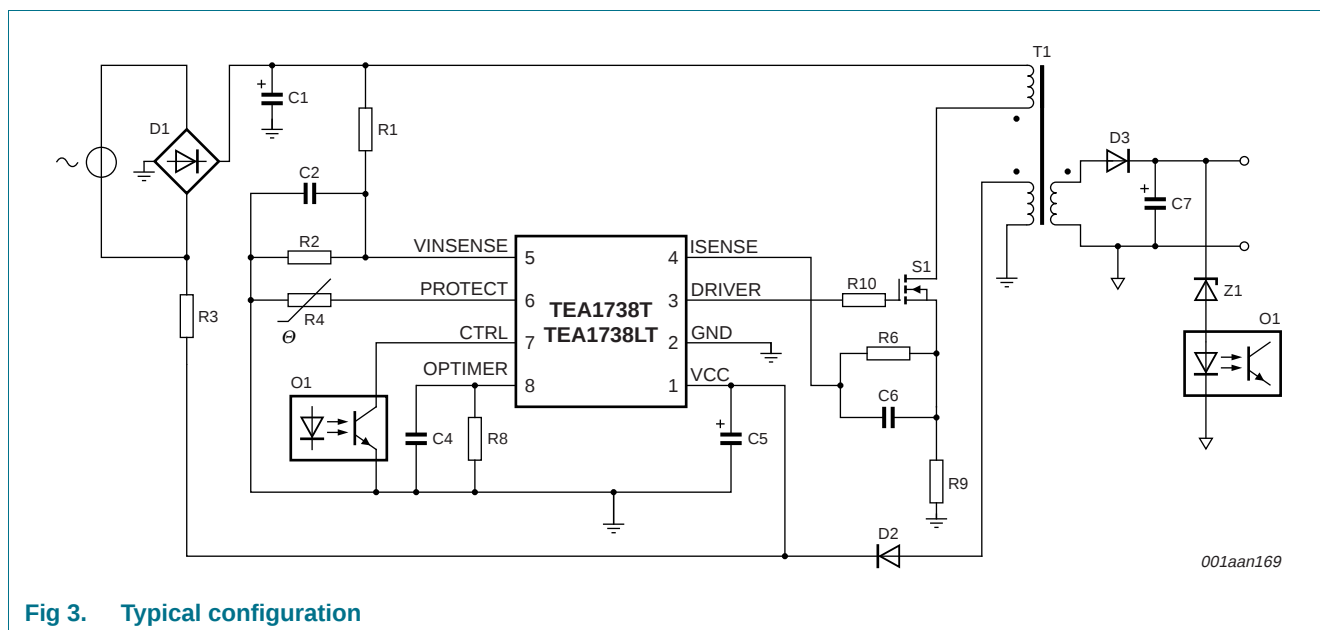
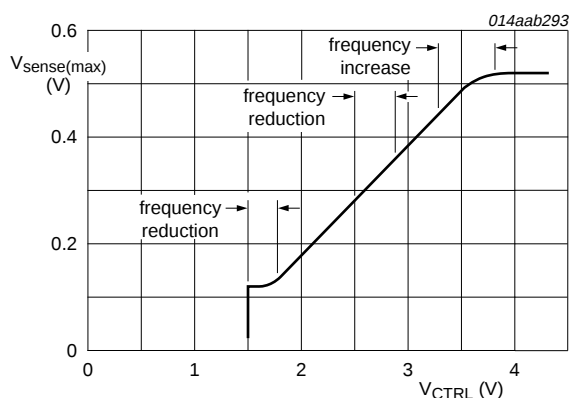
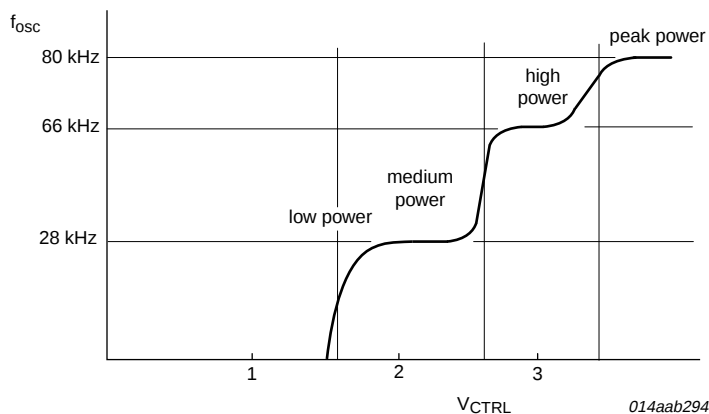

Fig 3. Typical configuration
Fig 7. Peak current control
Fig 10. Frequency control
The TEA1738(L) contains a flyback circuit controller, a typical configuration of which is shown in Figure 3.
If the OPTIMER pin is connected to capacitor C4 (see Figure 3), a temporary overload situation is allowed. $V_{\text{ctrl(Ipeak)}}$ (see Figure 1) is set by pin CTRL. When $V_{\text{ctrl(Ipeak)}}$ is above 400 mV, the $I_{\text{IO}(\text{OPTIMER})}$ current (11 μA typical) is sourced from the OPTIMER pin. If the voltage on the OPTIMER pin reaches the $V_{\text{prot}(\text{OPTIMER})}$ voltage (2.5 V typical) the OverPower Protection (OPP) is triggered (see Figure 5).
The primary current is sensed by the ISENSE pin across external resistor R9 (see Figure 3) and compared with an internal control voltage. The internal control voltage is proportional to the CTRL pin voltage (see Figure 7).
A soft start is performed to prevent audible noise during start-up or a restart condition. Before the converter (re)starts, soft start capacitor C6 (see Figure 3) on the ISENSE pin is charged. When the converter (re)starts switching, the primary peak current slowly increases as the soft start capacitor discharges through the soft start resistor (R6, see Figure 3).
The switching frequency is increased for peak power operation. In medium power operation the switching losses are reduced by lowering the switching frequency. A second frequency reduction step is made when the output power is reduced to low power. In low power operation the converter switching frequency is reduced while the peak current is set to 25 % of the maximum peak current (see Figure 7 and Figure 10).